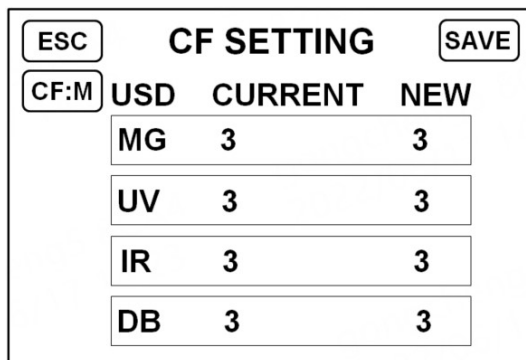

Figure 38
2) Touch **"1. Counterfeit level"** to enter the counterfeit detection gear setting interface, as shown in Figure 38 below: